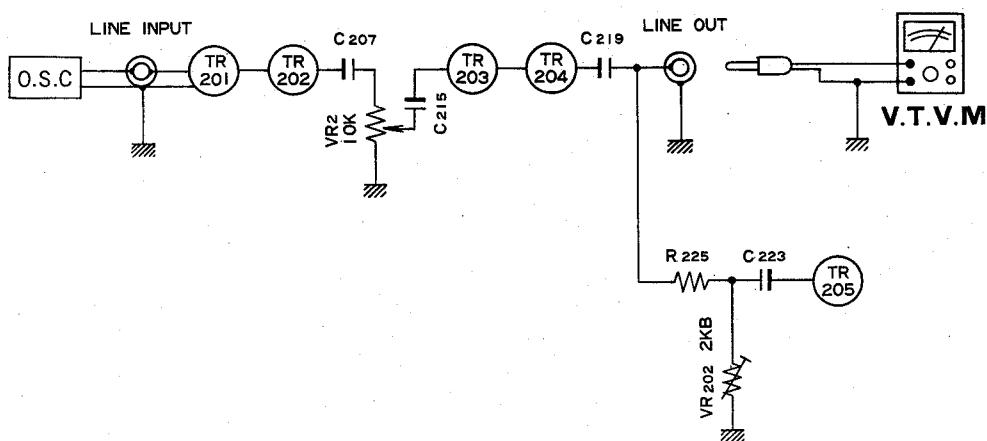

Fig. 4 OLD TYPE
(B) Recording and Playback for REEL (See Fig. 4)